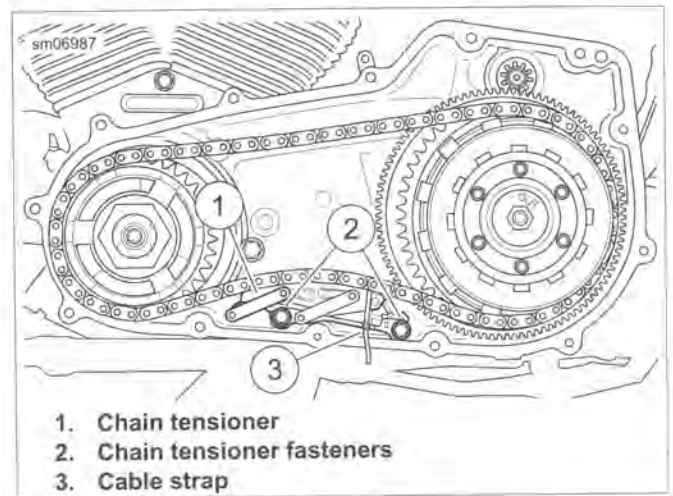

Figure 5-18. Chain Tensioner
- See Figure 5-18. Install primary chain tensioner (1) with fasteners (2). Tighten to 21-24 ft-lbs (28.5-32.6 Nm). Remove cable strap.